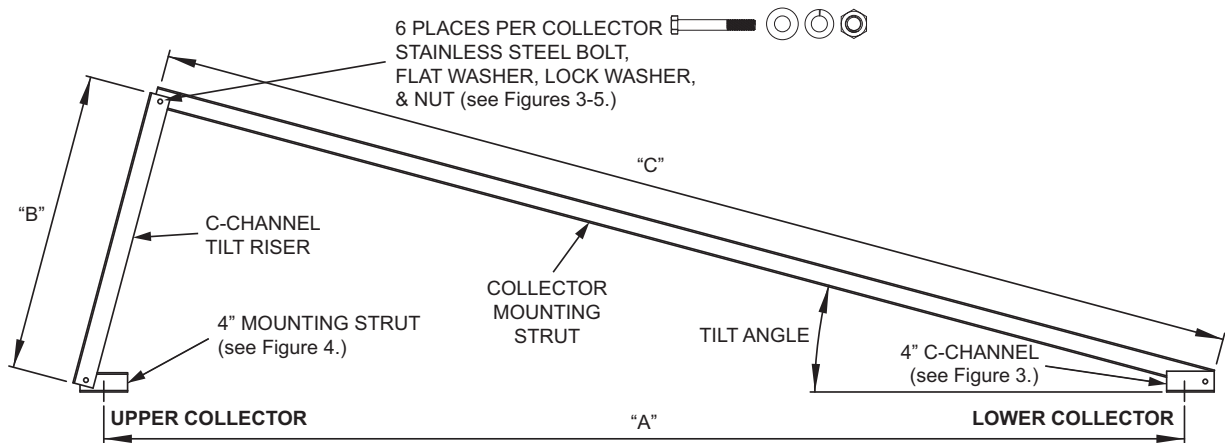
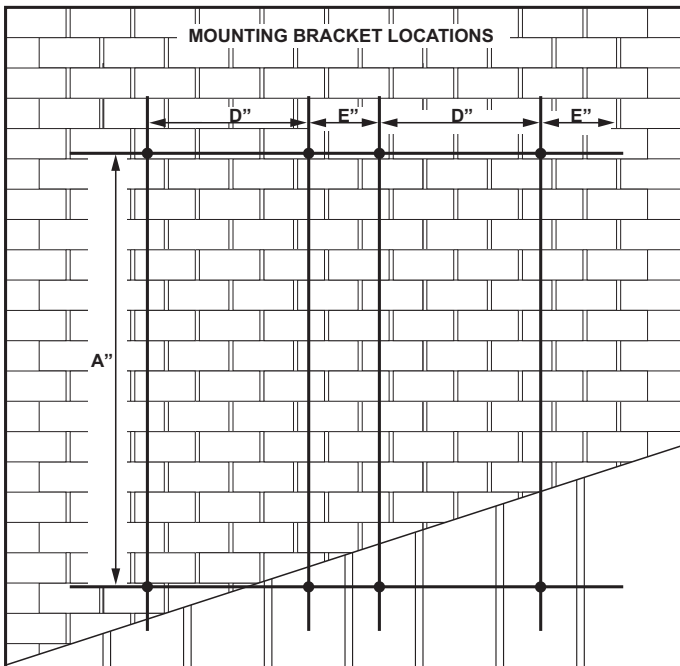

Figure 1.
Figure 2.
Locate the mounting points for the mounting brackets per Figure 1, Figure 2, & Table 1. Layout the roof as specified in the solar installation manual or the optional solar collector mounting kit being used. Keep in mind the "A" dimension listed in Table 1 when marking the mounting points.
fasteners included with your solar collector crate package or other optional solar collector mounting kit. See Figure 1 for placement of mounting bracket strut.
3. Install the 4" C-Channel mounting bracket to the lower collector mounting location with the stainless steel fasteners included with your solar collector crate package or other optional solar collector mounting kit. See Figure 1 for placement of C-Channel mounting bracket.
4. Locate the C-Channel Tilt Riser included with your kit. Install this to the upper 4" Mounting strut with the included stainless steel hex bolt, flat washer, lock washer, and hex nut. See Figure 1 & Figure 4.
6. Install the other end of the collector mounting strut to the upper end of the C-Channel Tilt Riser with the included stainless steel hex bolt, lock washer, flat washer, and hex nut. See Figure 1 & Figure 5.
7. Repeat steps 2 - 6 including Figure 2 for the remainder of the mounting bracket locations.